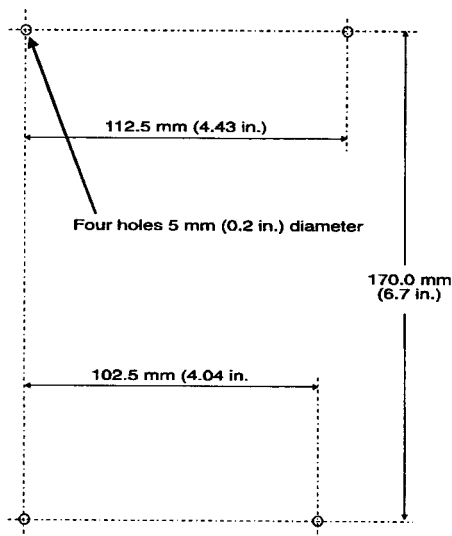

Fig 4.1 Wall-mounting fixings
- (1) Remove the four M3 fixing screws (Fig 4.1) at the rear of the MPM4100.
- (2) Fit wall-mounting pillars (ref. EN44) in place of the M3 fixing screws.
- (3) Drill the wall-mounting location to suit the MPM4100 fixing dimensions (Fig 4.1).
- (4) Use the four M3 fixing screws to secure the MPM4100 in position.